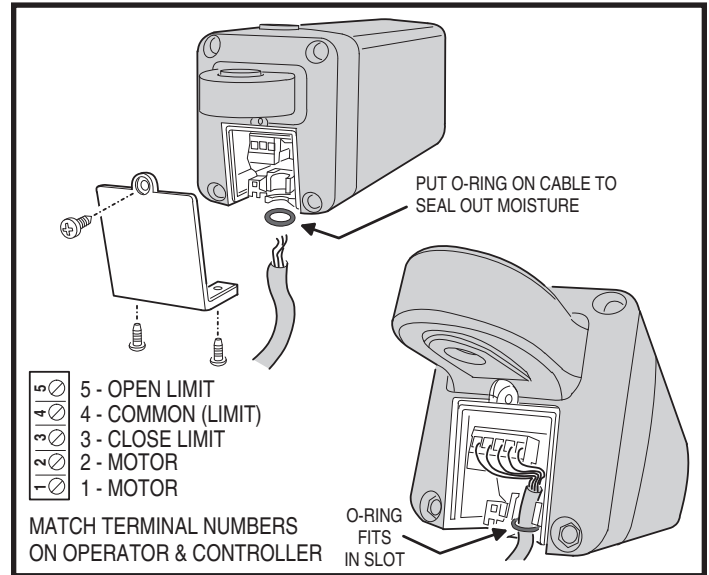

Figure 6. Operator Cable Connections
4. Remove the operator's wiring access plate (see Figure 6).
6. Connect the interface cable to the operator's terminal block matching the same colors and terminal numbers used in Step 2 (see Figure 6).